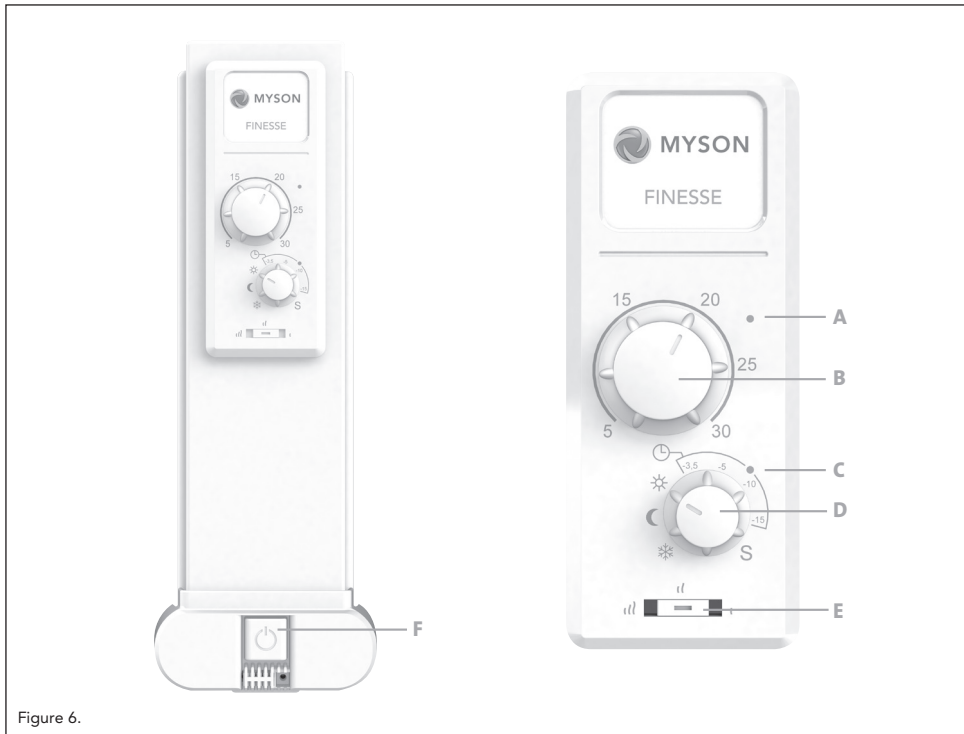

Figure 6.
- The On/Off button is located at the bottom of the control side of the radiator (F, figure 6). The radiator should only be switched "on" when it is correctly installed and
- Select one of the following operating modes using dial D (figure 6):
- The switch (E, figure 6) at the bottom of the control panel can be used to limit the output (surface temperature) of the heating element in the front panel.
- Two LED indicators (A and C, figure 6) indicate the working mode of the radiator.
- To activate the Key Lock function, slide the switch (E, figure 6), to the left , then to the right , then back to the left . Repeat this sequence 3 times.